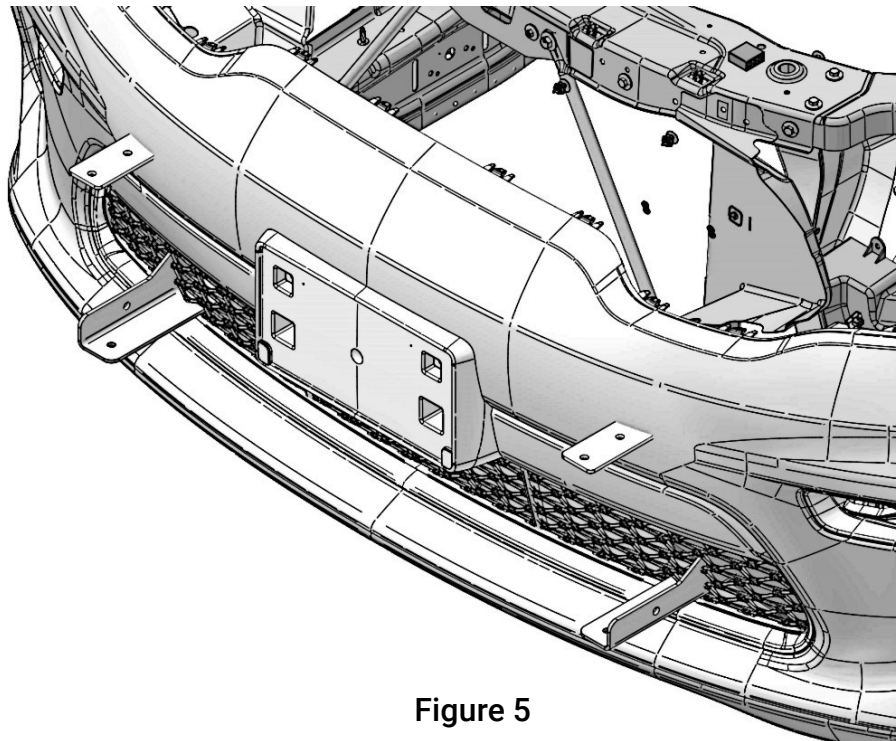

Figure 5
- F. Re-Install the trimmed fascia to the front of the vehicle ensuring that the upper and lower mounting points protrude through. (Fig. 5)